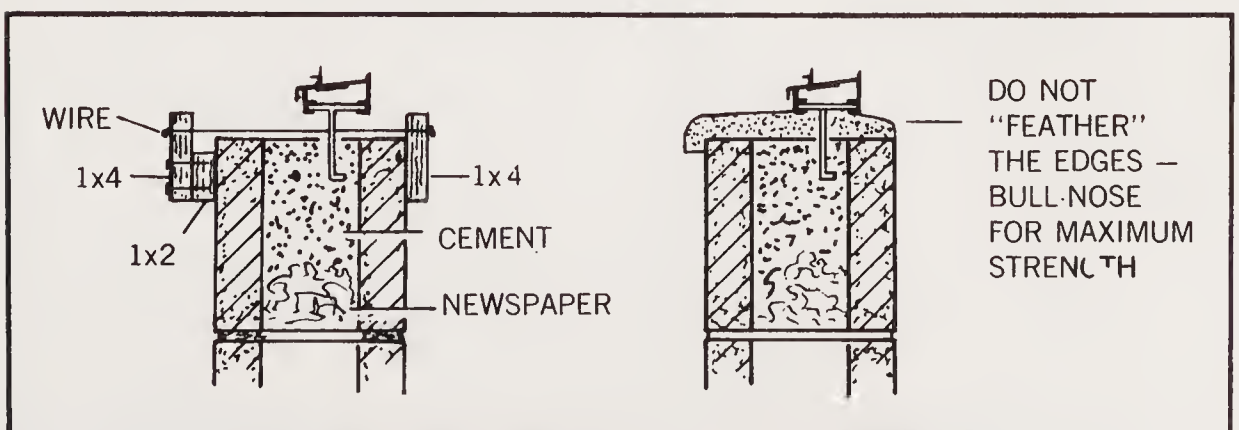

Fig. 1-23. Cement coping details (courtesy of Lord & Burnham).
- ☐ Cement in the sill anchors; for a hollow block wall, stuff newspapers below anchors to avoid excess use of cement (Fig. 1-23).